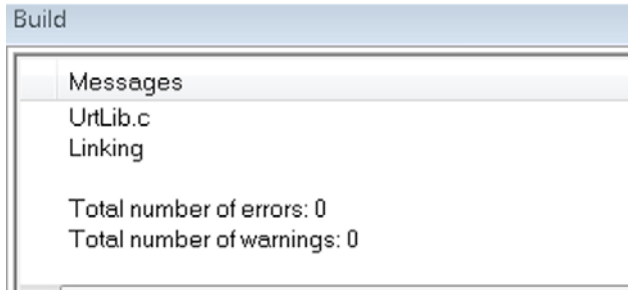

Figure 11. Project > Build
2. The message shown in Figure 11 appears in the build window.